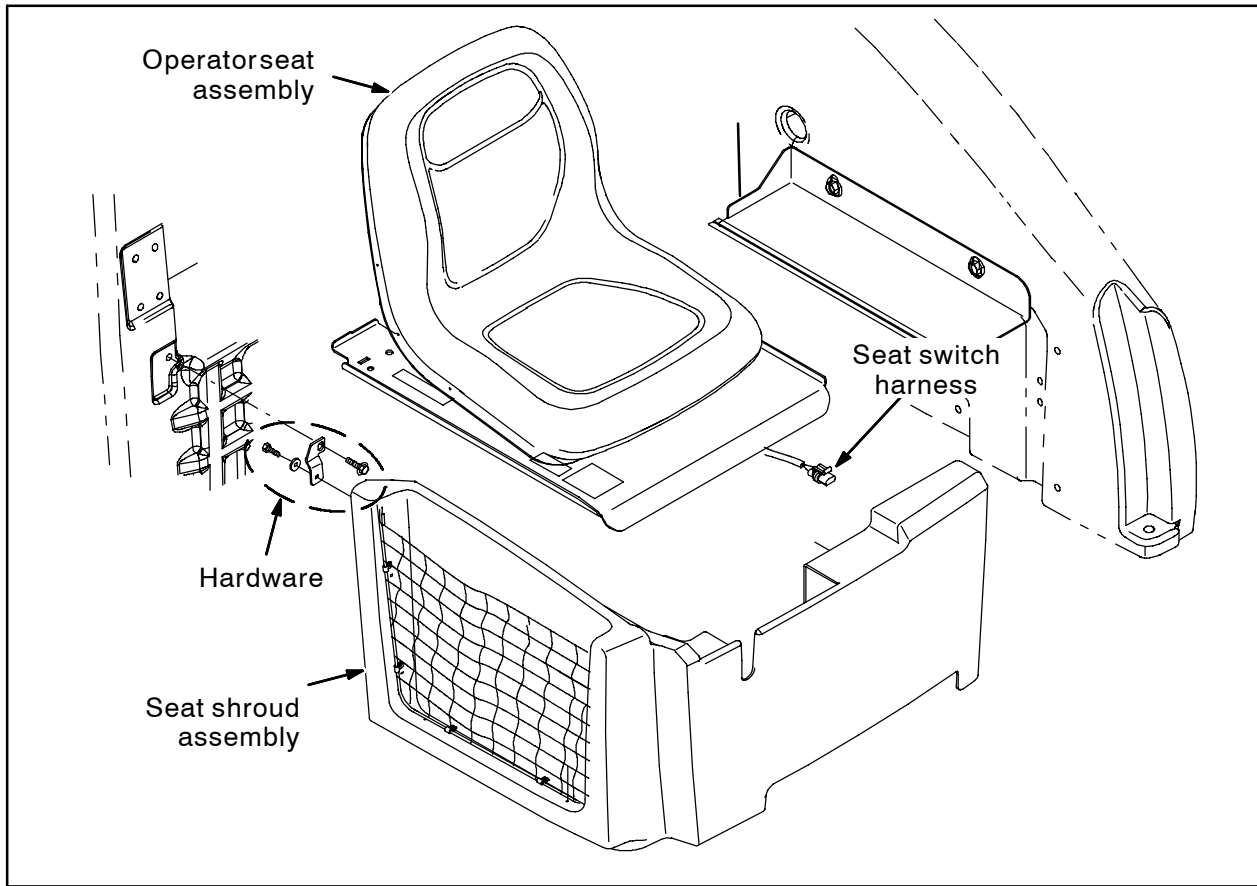

FIG. 1
1. Disconnect the seat switch harness from the main wire harness. Refer to Fig. 1.
2. Remove the entire operator seat assembly from the machine. Set the operator seat assembly and hardware aside. Refer to Fig. 1.
3. Remove the seat shroud assembly from the machine. Set the seat shroud assembly and hardware aside. Refer to Fig. 1.
20. Reinstall the seat shroud assembly onto the machine. Refer to Fig. 1.